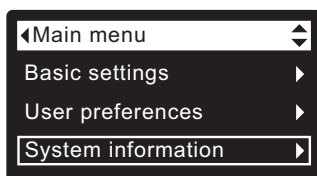

FIG. 60
1. From any of the rolling status screens, press the SELECT (O) button to display the **Main menu**.
2. Press the DOWN (▼) button to scroll through the menu options until **System information** is highlighted (See Figure 60).